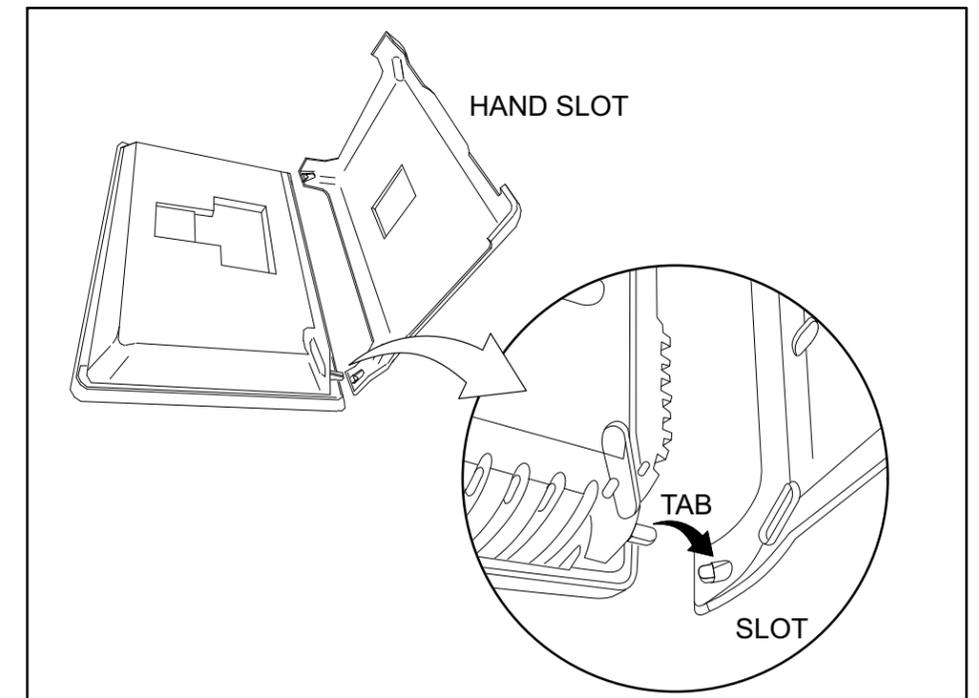

Figure 4. Installing thermostat onto bracket
1. Unpack the thermostat and separate the baseplate from the thermostat by using hand slot (shown in figure 4) and pulling apart, tilting away from the top. Open to 45 degrees and separate the two halves.
- G. Align the tabs on the thermostat with the slots on the base, holding it at about a 45 degree angle to the wall. When the tabs seat into the slot, rotate the thermostat upward until it snaps into place (see figure 4).